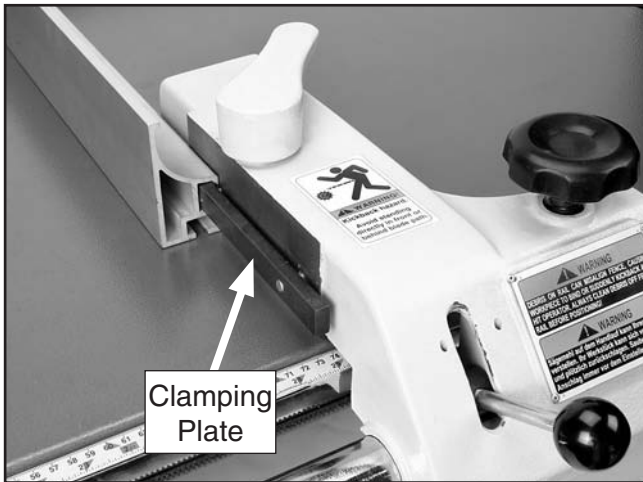

Figure 25. Installing the rip fence.
- Slide the aluminum rip fence all the way onto the clamping plate (**Figure 25**) and secure it by rotating the locking handle on top of the rip fence body.